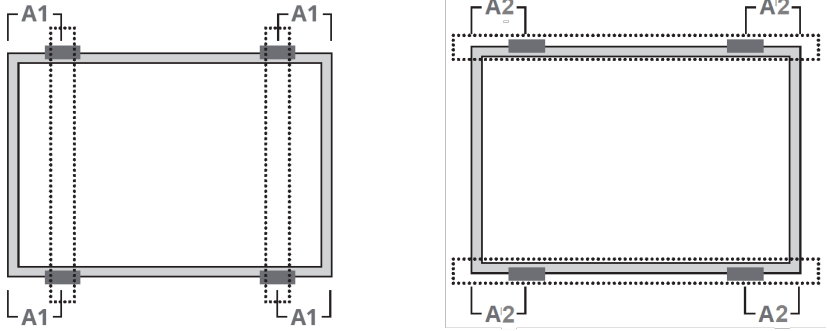

Figure 9: Side clamping ranges of the modules SPVxxx-R60LWMG / SPVxxx-R60LBMG
4. For mounting the supporting rails on the frame, slide bolts through the rail grooves next to the four clamp locations. Clamp positions are of crucial importance for the reliability of the installation. The clamp center lines must only be positioned within the ranges indicated in *Figure 9* *Table 2* *Table 4*, depending on the configuration and load.